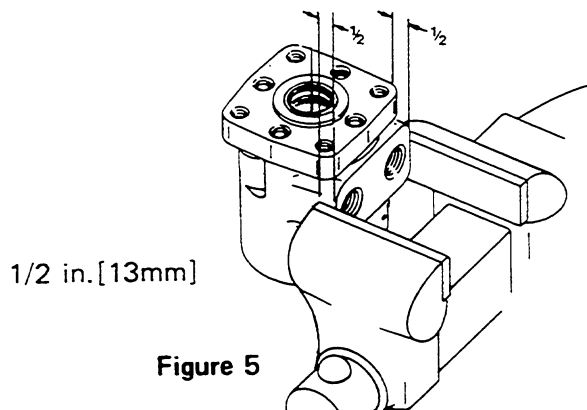

Figure 5
**13** Reposition motor in vise. Clamp across ports as shown in Figure 5. Do not clamp on side of housing. Excessive clamping pressure on side of housing causes distortion.